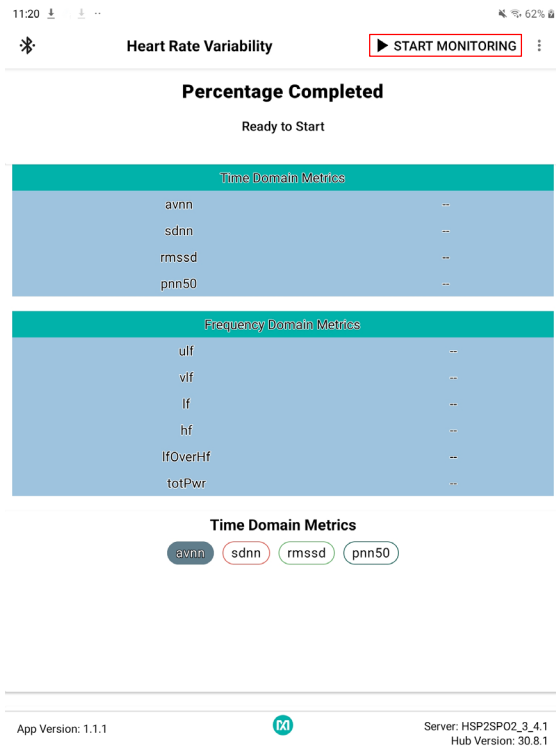

Figure 47. Start heart-rate variability measurement.
1. Click the back button of the Android device to go back to the main menu and click **Heart Rate Variability**. The individual graphing of the avnn, sdn, rrmssd, or pnn5 data can be selected by selecting the button of interest and deselecting the other three. For instance, avnn is selected in Figure 47, and the other measurements are deselected. To start the heart-rate variability monitoring, click the play icon.